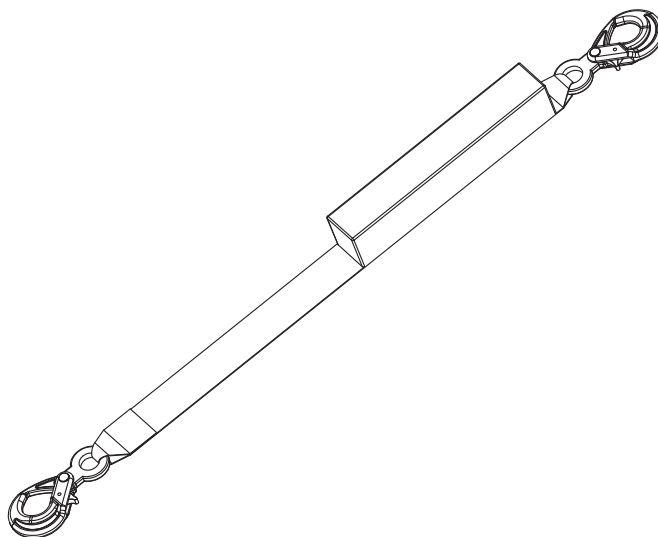

Fig. 1
In the event of a falling load, the height of the fall varies depending on the attached mass. Different fall heights are shown in the table below (figure 1). The fall arrest lanyard (fig1.A) is there to secure the device (fig1.B). It is recommended to add an additional safety distance to the fall height (D).